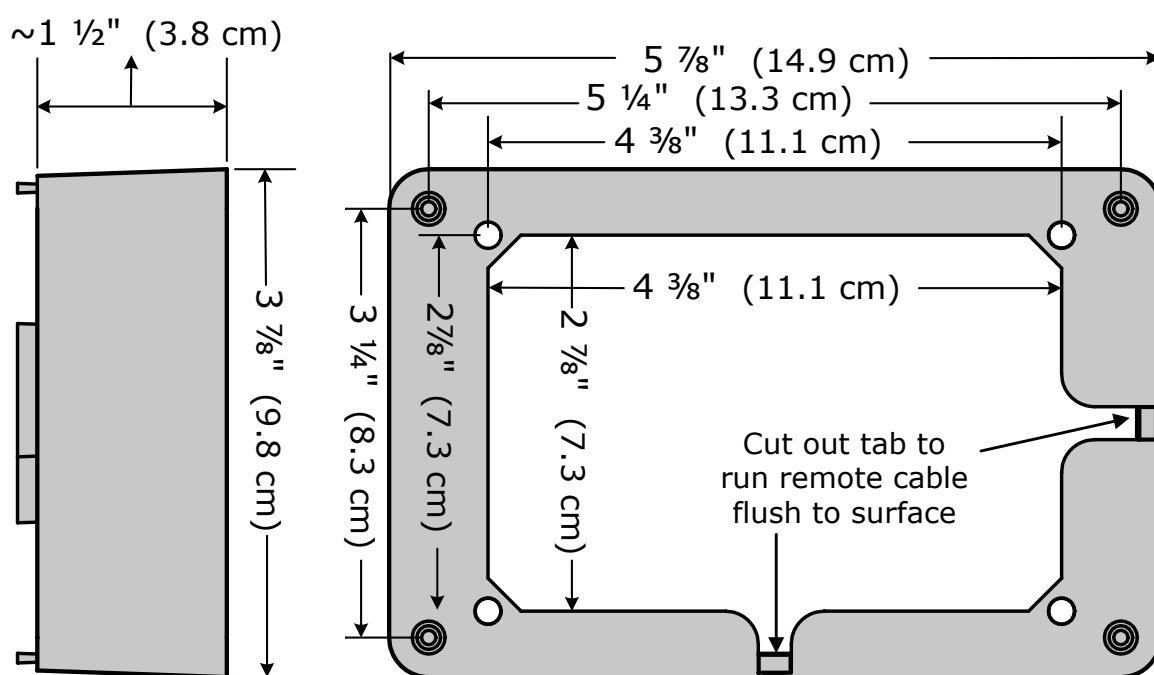
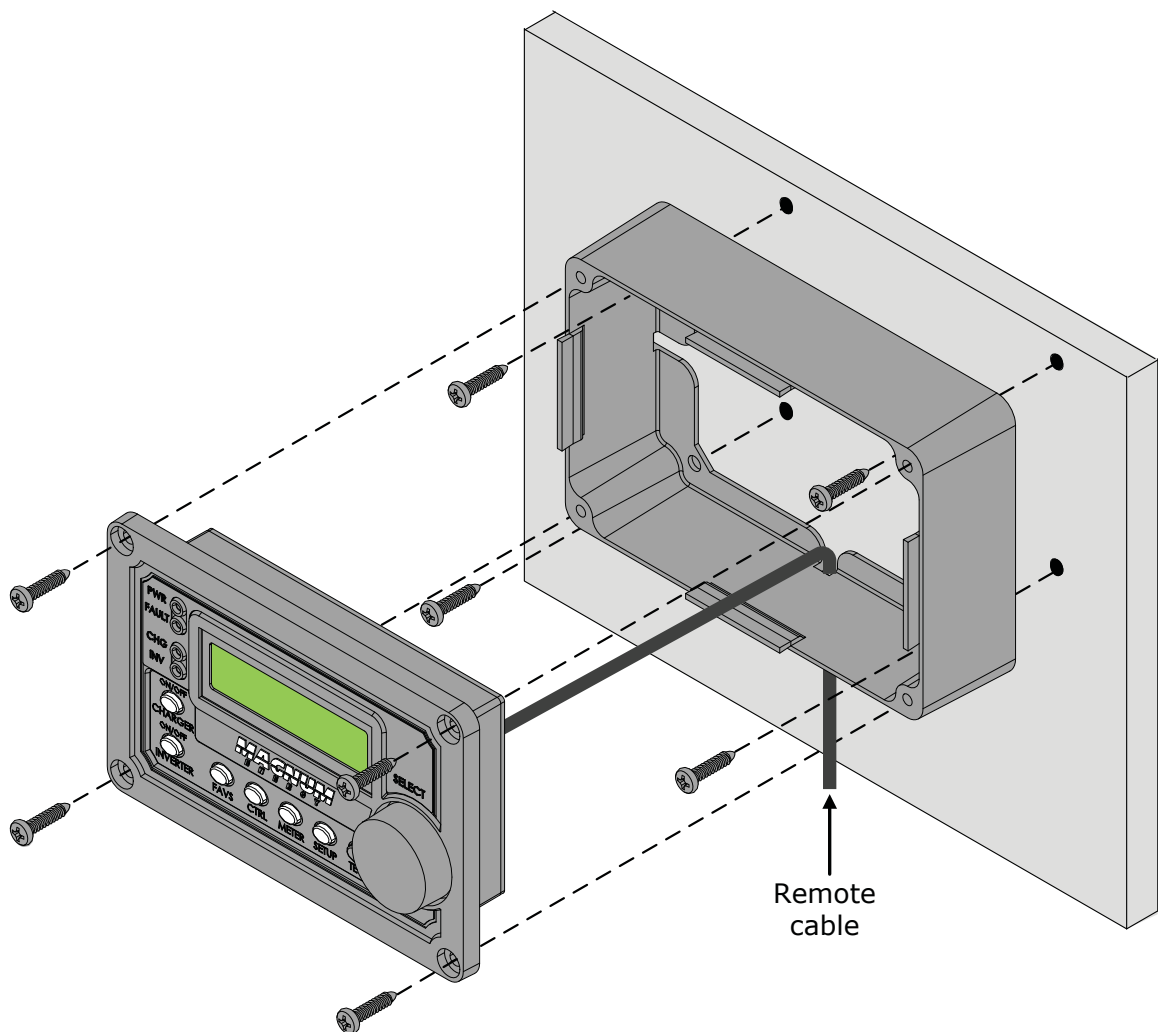

Figure 2-4, Remote Bezel Dimensions
Figure 2-6, Surface Mounting the ME-ARC using the Bezel
To surface mount, you must use the supplied bezel (Figure 2-4).
Info: The bezel has tabs at the bottom and side that are made with thinner material (Figure 2-4). They can be cut or broken out to allow the cable to be routed downward or to the side (Figure 2-6).
4. Position the bezel over the drilled mounting holes, and then screw the bezel to the wall using four of the supplied Phillips screws (Figure 2-6).